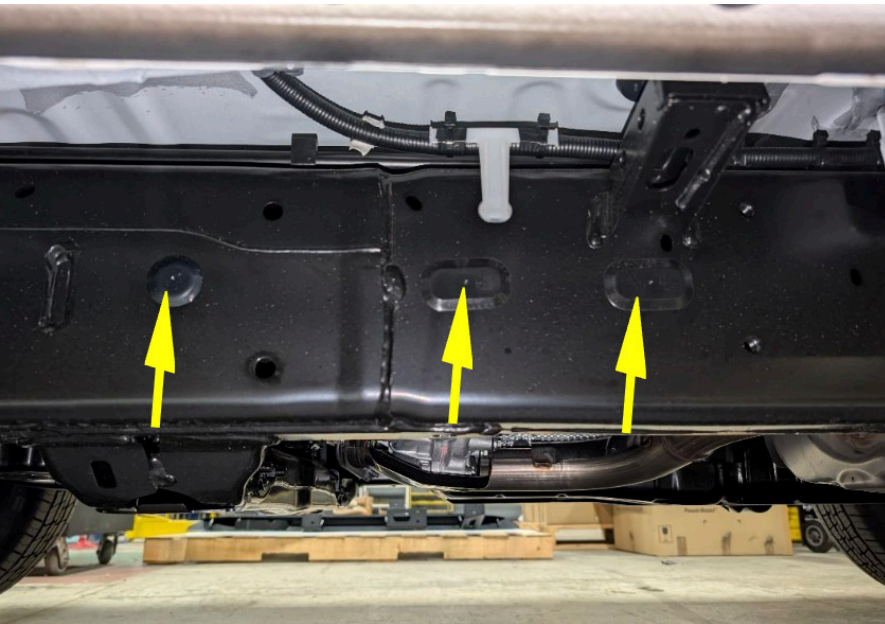

Figure 3
4. Remove ALL the plastic frame caps along the DS and PS frames. Figure 3.